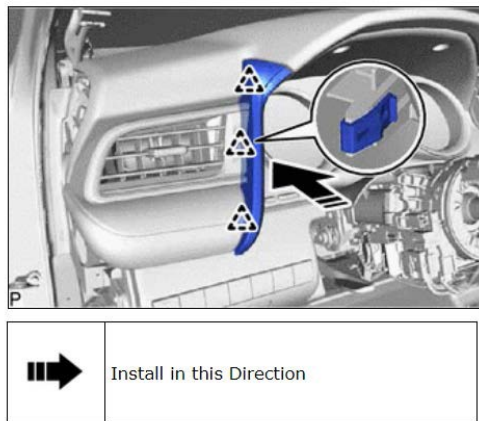

Figure 36
- (a) Engage the 3 clips to install the No. 2 meter hood cluster as shown in Figure 36.